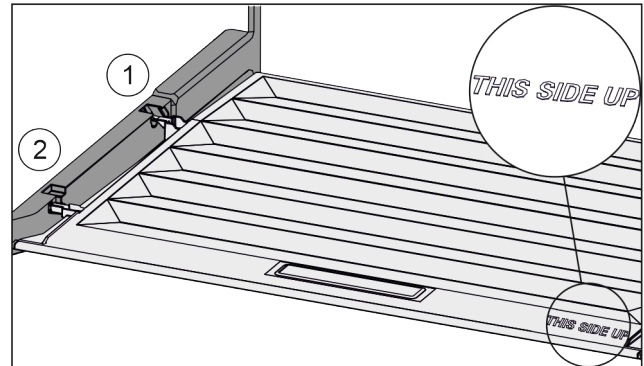

Fig. 107
- ▶ Insert the lip of the cover over the opening of the rear bracket Fig. 107 (1) and click into place Fig. 107 (2).